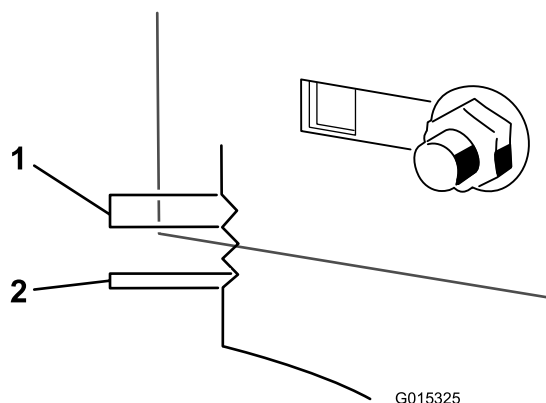

Figure 53
10. Use the notches on the welded bracket to measure the amount of adjustment. Each notch surface is equivalent to 0.25 inch, while a single side is 0.125 inch (Figure 53). Adjust the height of the mower deck to the desired height.